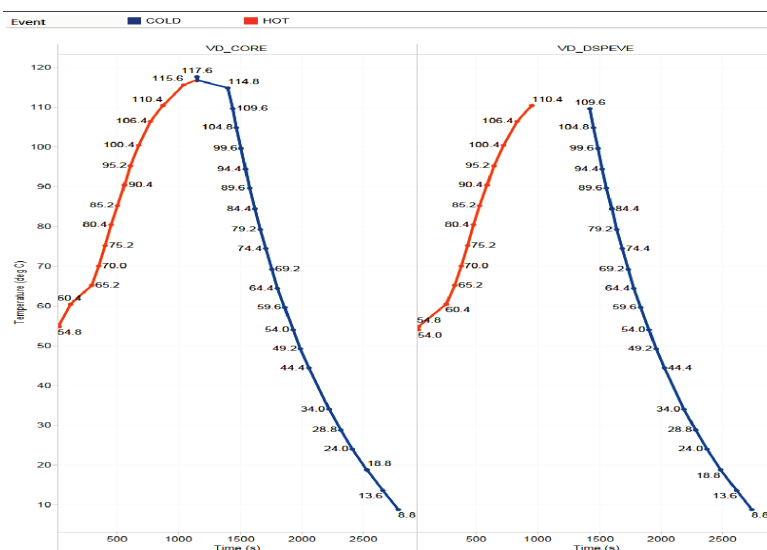

Figure 22. Thermal Tracking by Changing Thermal Thresholds in Temperature ISR
- A thermal tracking system can also be created with this mechanism for modifying the temperature thresholds in the temperature ISR. Figure 22 provides an example of this thermal tracking where the device was heated and then cooled in a thermal chamber, from 40°C to 110°C then back down to 0°C.
The hot and cold thresholds were modified by 5°C on every thermal event. As the ambient temperature changed, the host processor was interrupted at the appropriate temperatures. The current temperature was recorded at every thermal event, the plot is shown in Figure 22. Note the junction temperature is higher than the ambient temperature by approximately 10°C. This difference increases as the ambient temperature increases due to higher leakage power dissipation and thermal device heat generation at higher temperatures.
- Depending on the use case operation, different regions of the device heat up slightly differently than others. Note in Figure 22 that the 500 s Time the VD_CORE is at approximately 85°C and VD_DSPEVE is at approximately 80°C. The difference in temperature is almost always $< \pm 5$ -10°C. You can choose to base the thermal management on only one temperature sensor in TDA2xx/2ex to minimize software overheads.